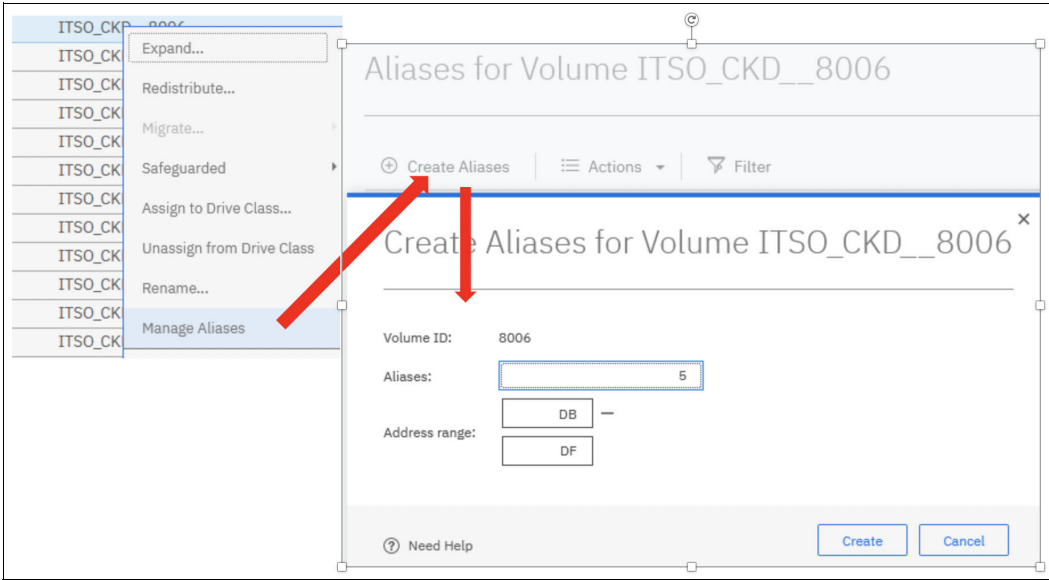

Figure 9-83 Configuring aliases for a single base volume
**Note:** The alias IDs start at FF and they are in descending order, as shown in Figure 9-83 on page 303.
7. Aliases can also be created for a single base volume by selecting the base volume, right-clicking, and selecting **Action** → **Manage Aliases**. Then, select **Create Aliases**. Enter the number of aliases that you want for the base volume, as shown in Figure 9-83.